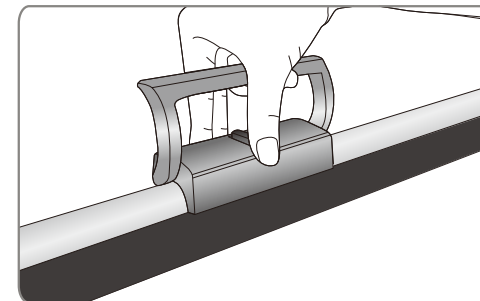
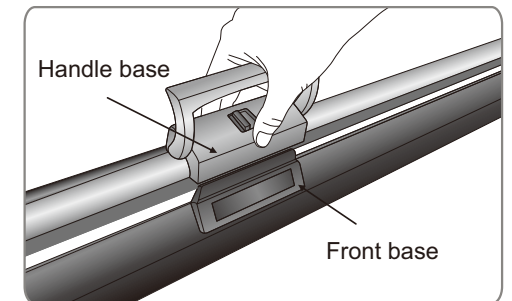
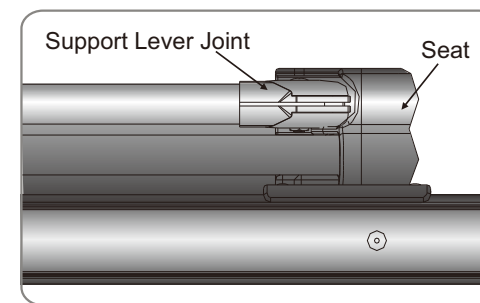
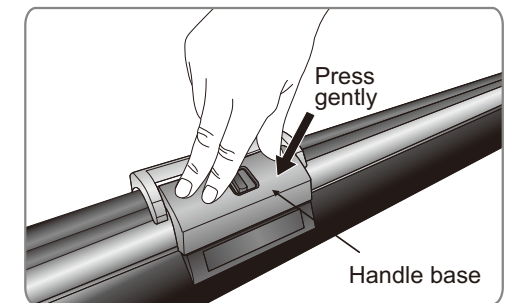

Figure 12
Figure 13
Figure 14
Figure 15
2. Hold the handle and press it down slowly (Figure 12). According to Figure 13, Please stay the support levers into the seats for locking easily(Figure 14). When you can hear “pa”, it means that the screen is locked (Figure 15).